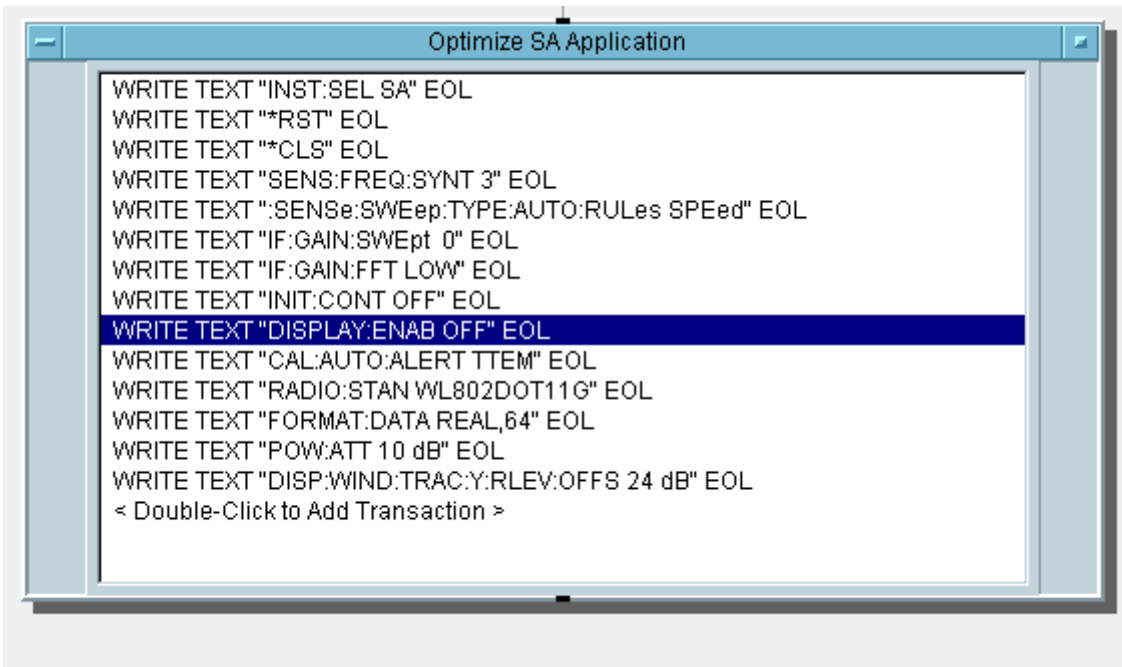

Figure2. Spectrum Analysis (SA) Application Optimum Settings
Figure2 shows the recommended settings to optimize the Spectrum Analysis (SA) Application for the highest measurement throughput. These commands need to be sent to the instrument once only to prevent spending additional time on setting up the instrument.